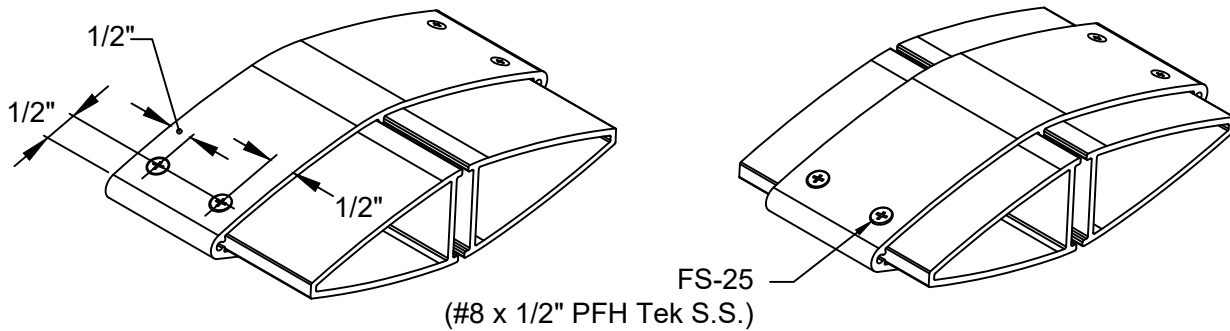

FIGURE 45
- 5) When using a solid blade like the SS-1162, connector plates are not required. Splice will be installed similar to shown on page 21. Drill #17 (.173"Ø) holes in blade as shown in FIGURE 45 and countersink for #8 flat head. Fasten splice to the sunshade blade using (4) FS-25 (#8 x 1/2" pfh Tek St. Steel) fasteners on top side of blade. SEE FIGURE 45.